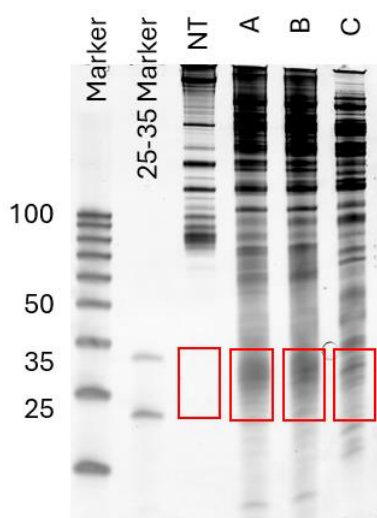

Fig.2 Example of RNA extracted after nuclease titration run on 15% TBE-Urea gel. In the red square the sizes are between 25-35 nt.
As depicted in the figure above, not digested (NT) sample does not present the typical enrichment of fragments at 25-35 nt (red square in Fig.2). Under-digested sample (A) does display an enrichment of RPFs but they are not well resolved, while the over-digested sample (C) should display a ladder-like pattern of bands below 50 nt and the disappearance of the signal on the top part of the gel. In this example, the quantity of Nux used in sample B needs to be utilized for all the reactions as it displays a sharper definition of peaks between 25-35 nt.